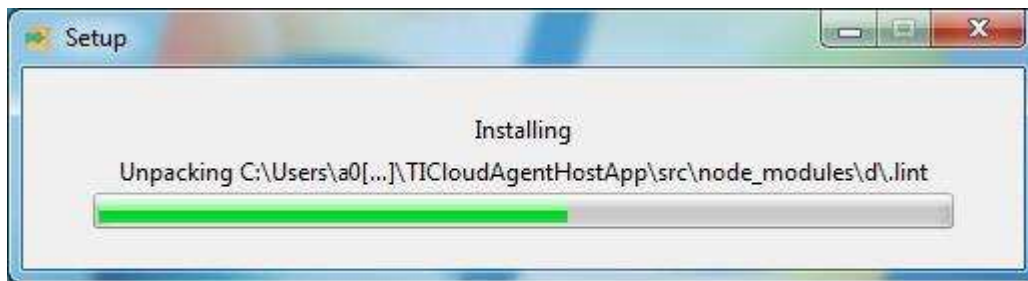

Figure 14. Installing TMP117EVM GUI
7. Wait for the EVM software installer to start the installation process as shown in Figure 14.